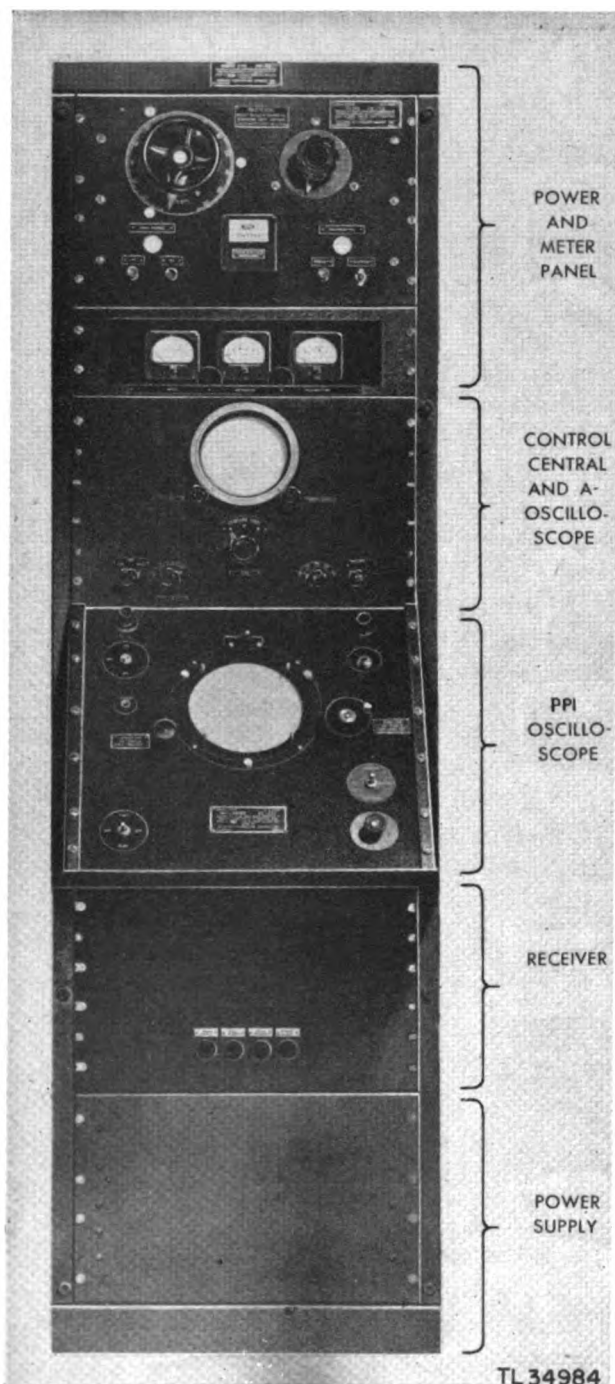
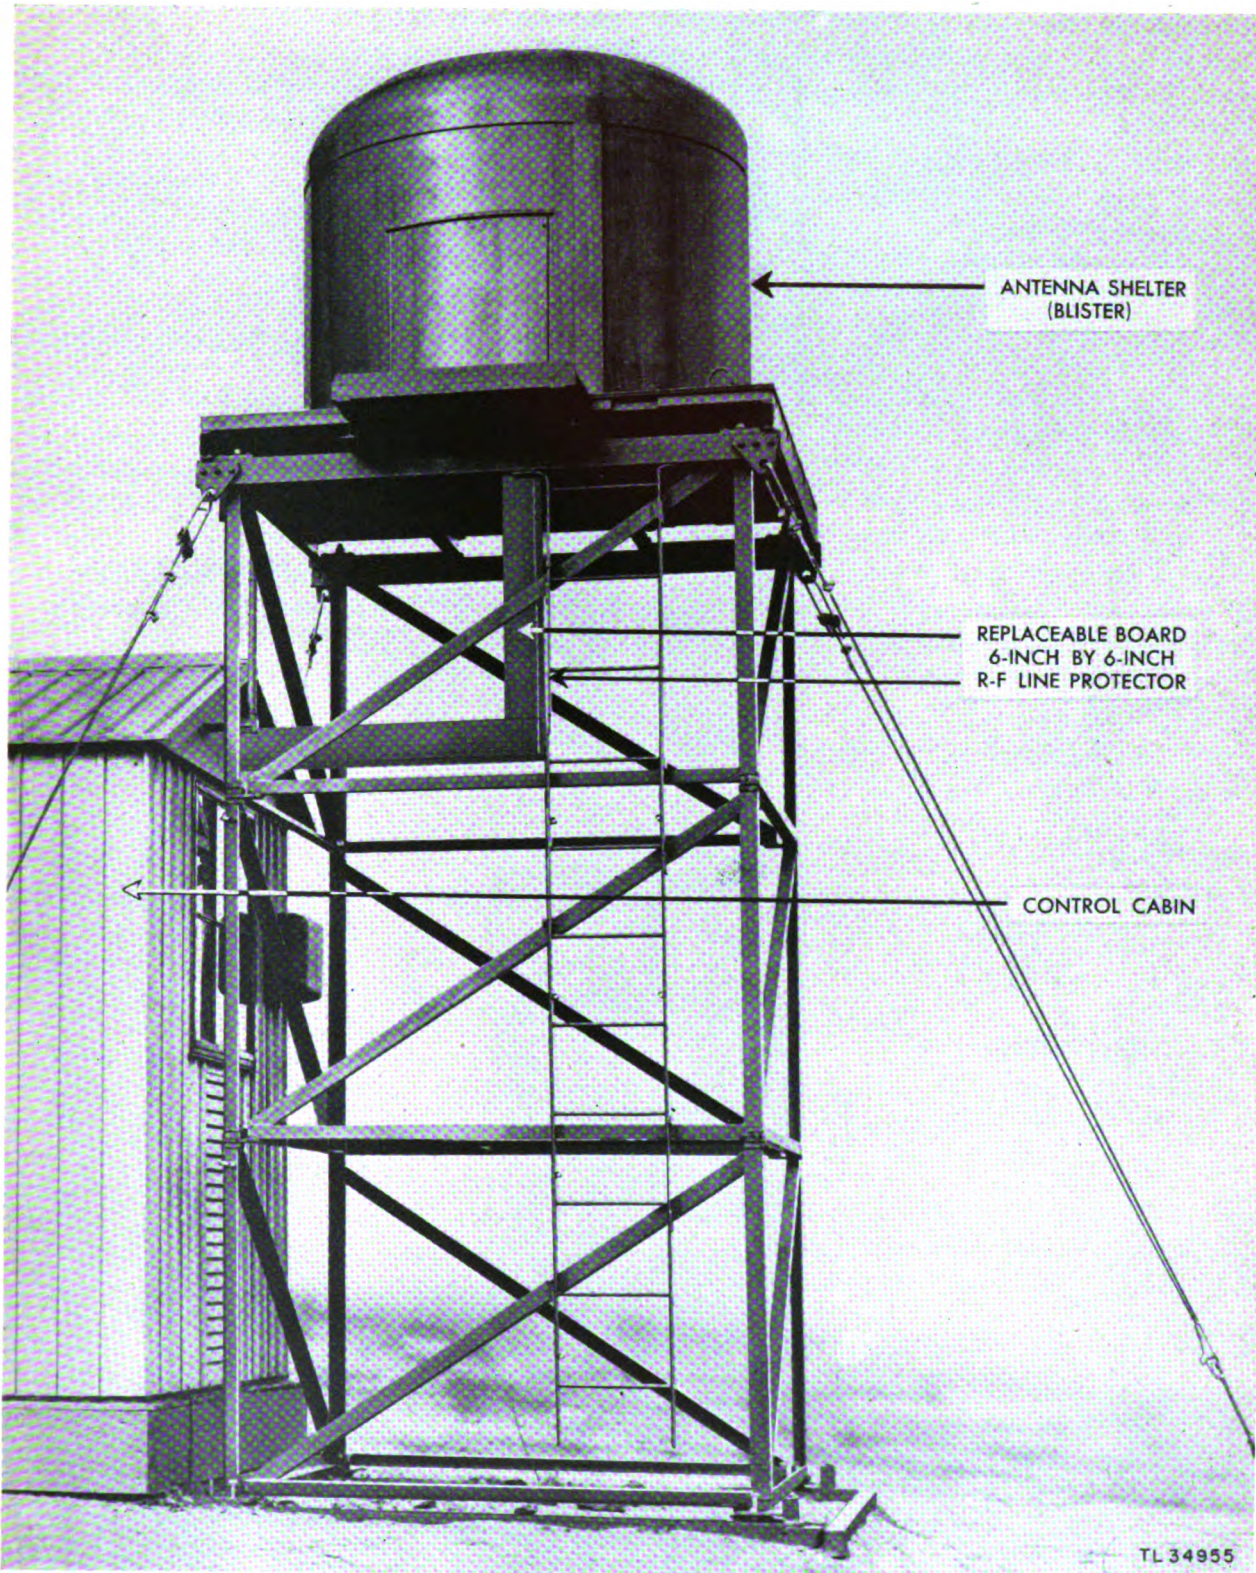
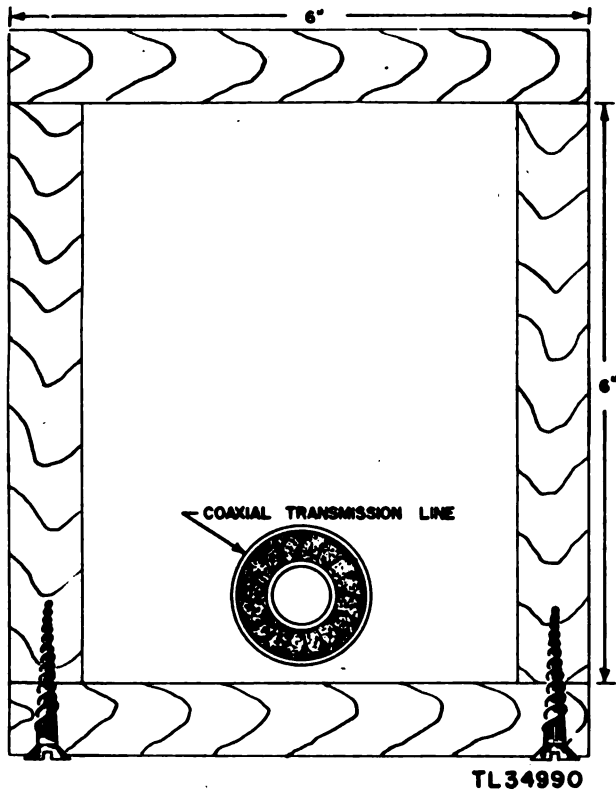

Figure 5. Front view of control cabinet.
Figure 12. Radio Set SCR-532(*) installed on a cliff.
Figure 19. Line protector box.
A full-length front view of the control cabinet is shown in figure 5. The cabinet is 22 inches wide, 18 inches deep, and 76 inches high, with a desk extending 15½ inches from the front of the cabinet at the proper level for a seated operator. The complete cabinet with all components in place weighs 520 pounds. This main component
trol cabinet (fig. 5), and the amplidyne generator (fig. 7). If sufficient elevation is obtainable, the antenna equipment can be mounted on the roof of the building housing the other components. Figure 12 shows an installation on a cliff where it was possible to mount the antenna on a short
f. Where the r-f line is not protected by being inside a building, a protector should be built for it. Figure 12 shows such a line protector. It is a box made of 1-inch boards 6 inches wide. Figure 19 gives a cross-sectional view of the completed protector box. The side of the box nearest the r-f line should be attached with screws so that it can be removed when it is necessary to make repairs on the line.